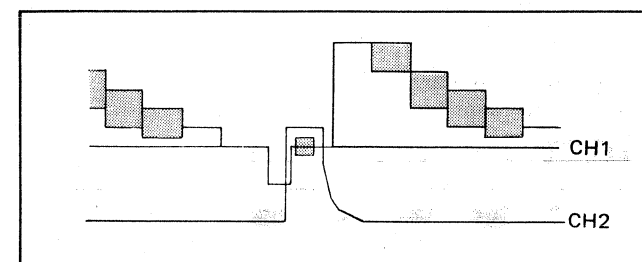

Fig. 1
5. Adjust R5429 (H. Delay Position) so that the burst position becomes as shown in Fig. 1.